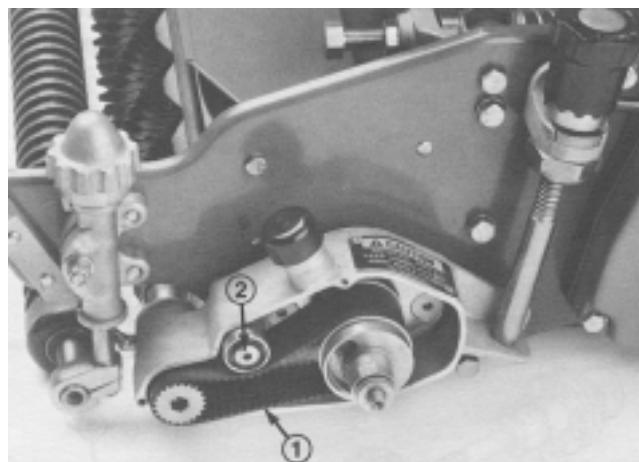

Figure 10
D. Position the toothed belt over the drive pulley (that was removed from the clutch in step 10). While holding the belt on the drive pulley, simultaneously slide the drive pulley back into place on the clutch adapter and position the belt around the driven pulley and under the backside idler (Fig. 10).
2. Belleville washers (2)	6. .270 in. \pm .010 (with pulley fully extended)
F. Check the tension on the drive belt by depressing it at the midpoint between the drive pulley and the driven pulley (Fig. 10). A force of 5 to 10 lbs. should be required to depress the midpoint of the belt 1/4 inch. To adjust tension, loosen the backside